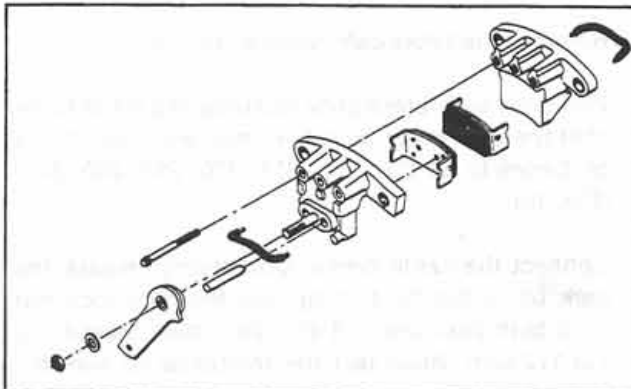

Figure 7:
6. Remove the remaining parts from the castings and inspect them (Fig. 7).